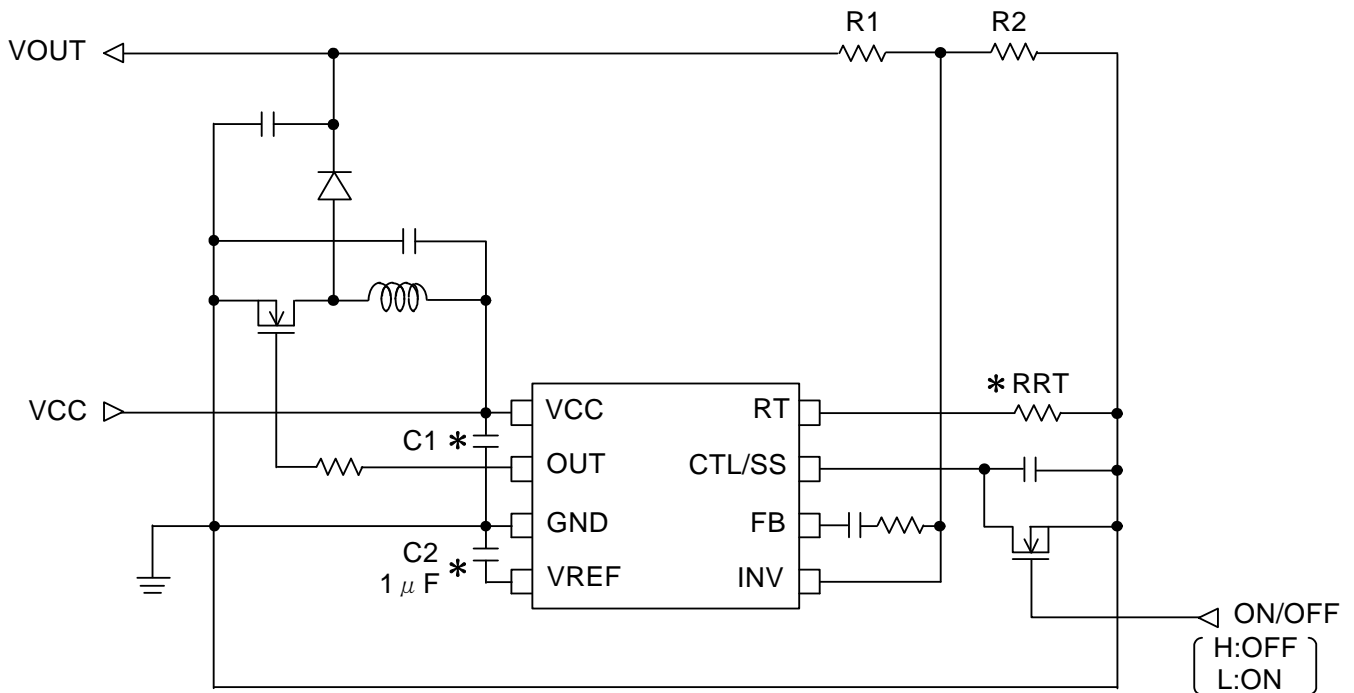

Fig.7
*Place these parts with attention about patterns shown in following Fig.7